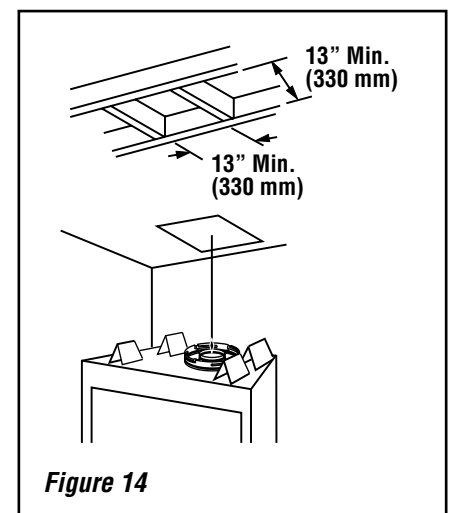

Figure 14
A. Frame ceiling opening - Use a plumb line from the ceiling above the appliance to locate center of the vertical run. Cut and/or frame an opening, 13" x 13" (330 mm x 330 mm) inside dimensions, about this center mark (**Figure 14**).
If the vertical route is to penetrate a ceiling, use plumb line to locate the center above the appliance. Cut and/or frame an opening, 13" x 13" (330 mm x 330 mm) inside dimensions, about this center (refer to **Figure 14 on Page 11**).